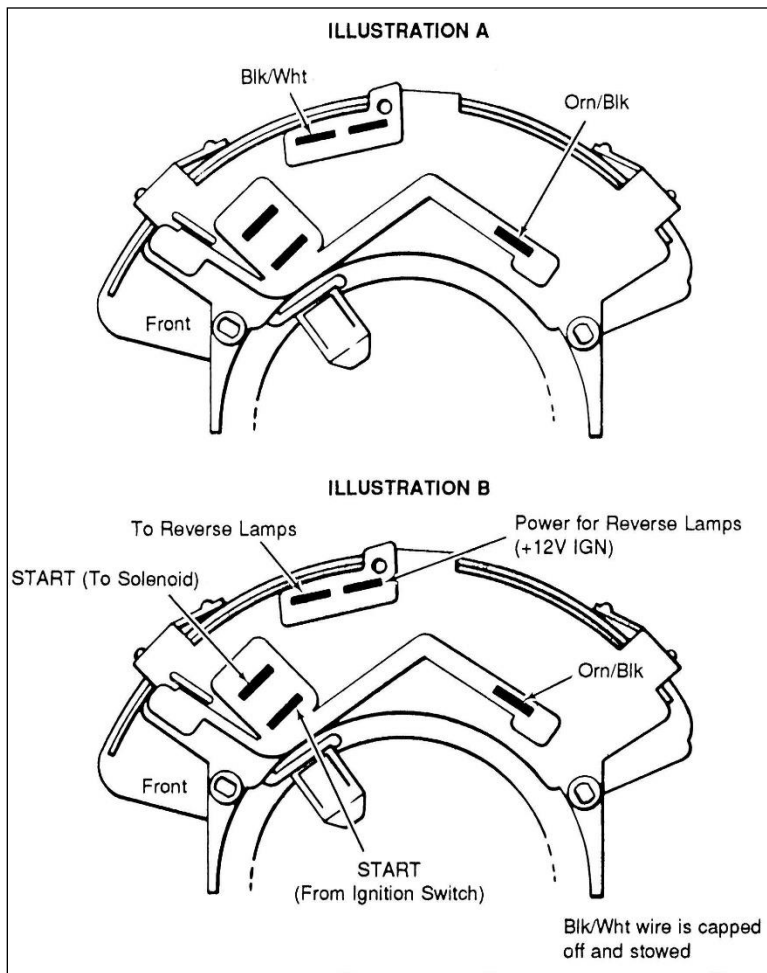

FIGURE 6.4 Gear Indicator Switch
- 6.2.3 Using **Figure 6.4 – 6.8**, and the specific connections indicated in **Table 6.1**, connect the wiring as directed.